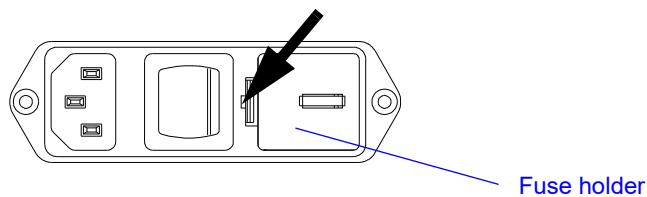

Figure 5-2. Prying out the fuse holder
1. Turn the power switch to the Off (O) position and disconnect the power cable from the main power source. Ensure that the **POWER** indicator light does not illuminate.
3. Insert a small flat-head screwdriver into the slot indicated in Figure 5-2 on page 5-7 and pry out the fuse holder.